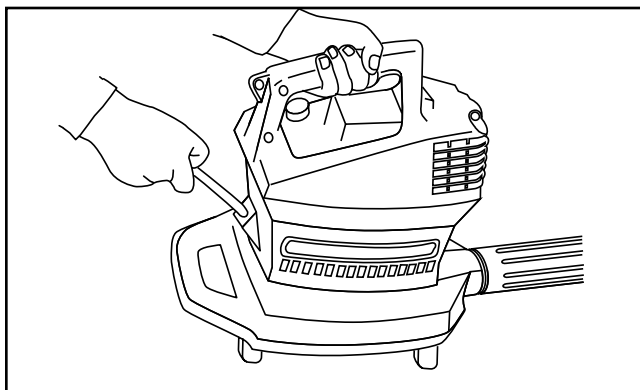
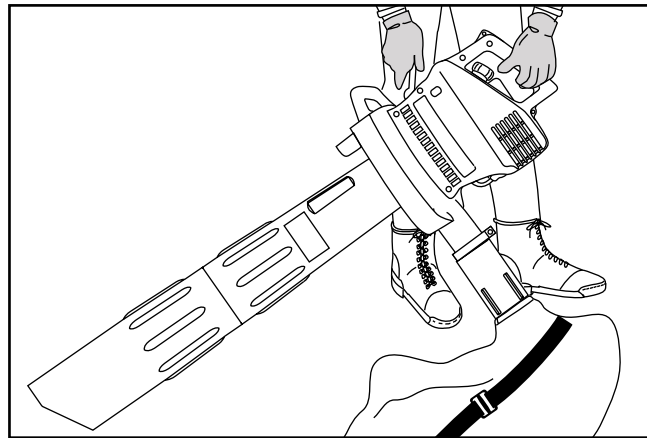

Fig. 16
Fig. 17
4. **HOLD THE BLOWER/VAC IN THE STARTING POSITION** (Fig. 16 for blower, Fig. 17 for vacuum).